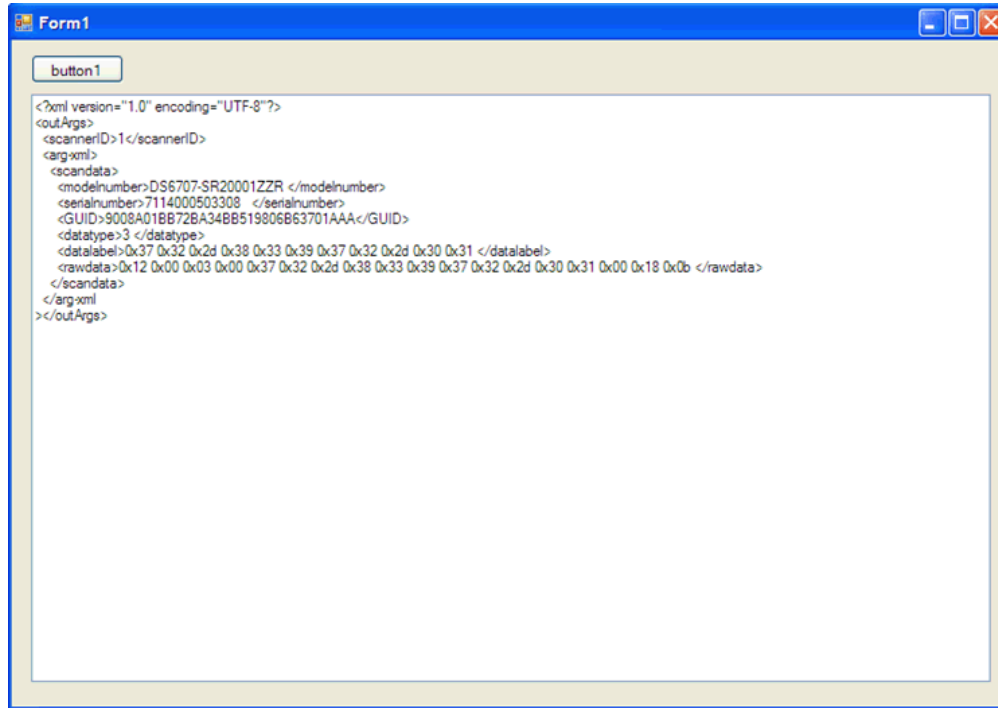

Figure A-13 Scanned Bar Code Output
6. If you execute the application and click on the button, the application instantiates CoreScanner and is ready to receive bar code events. Figure A-13 illustrates the output when you scan a bar code.